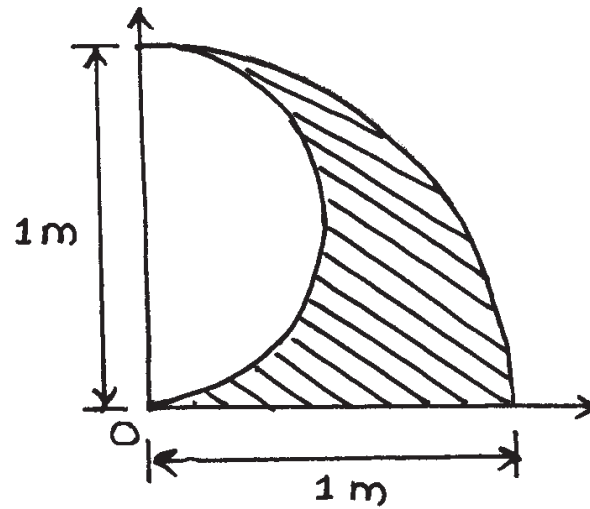

Figure No. 9
- b) Locate the centroid of shaded area as shown in Fig. No. 9 w.r.t. origin.